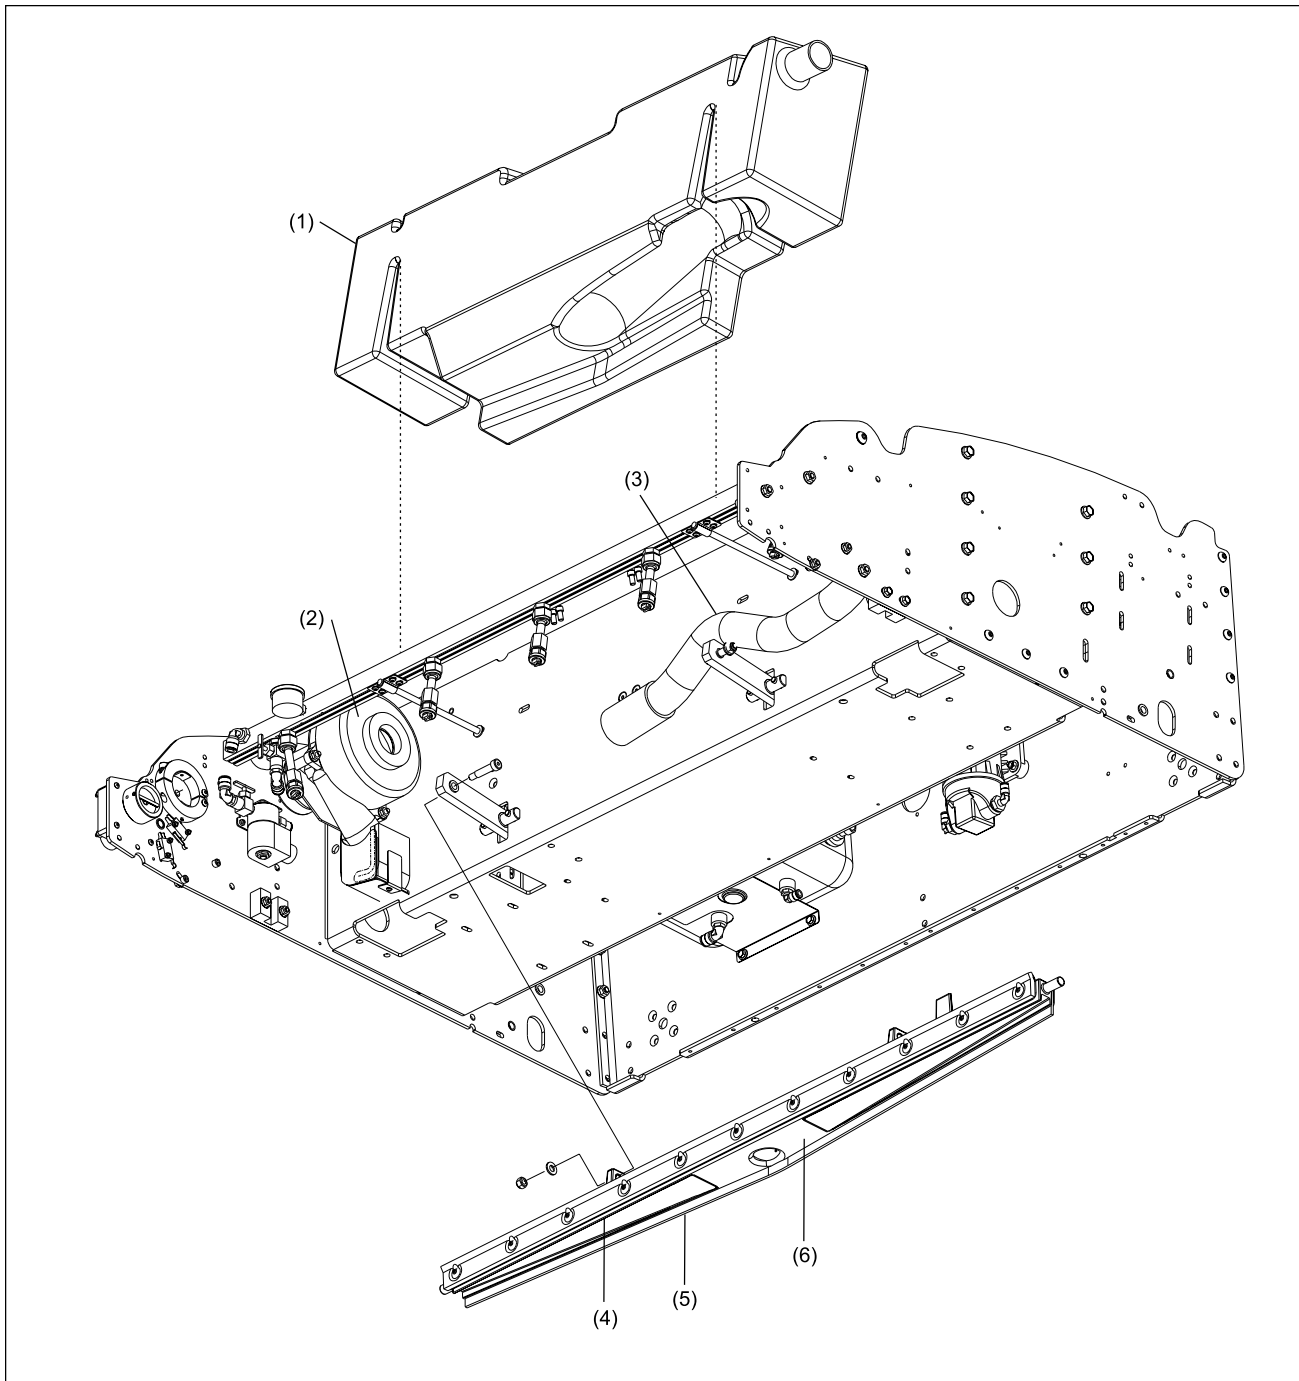

Figure 6-3. Cleaner Vacuum System - Bottom View
3. The absorbent wiper agitates the cleaning fluid on the lane to help loosen dirt and conditioner. Refer to Figure 6-3.
4. The squeegee assembly and vacuum remove cleaner and conditioner from the lane surface and collect it in the waste recovery tank. Refer to Figure 6-3.